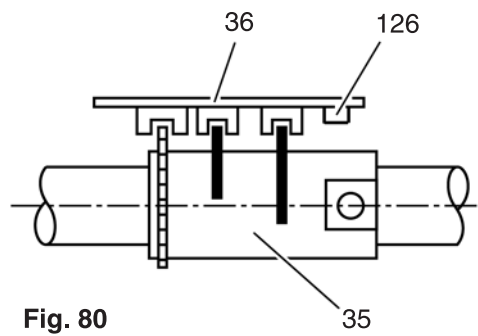

Fig. 80
- Make sure that the circuit board is positioned as such, so that the cams of control cam 35 are positioned in the middle of the circuit board guides (fig. 80).